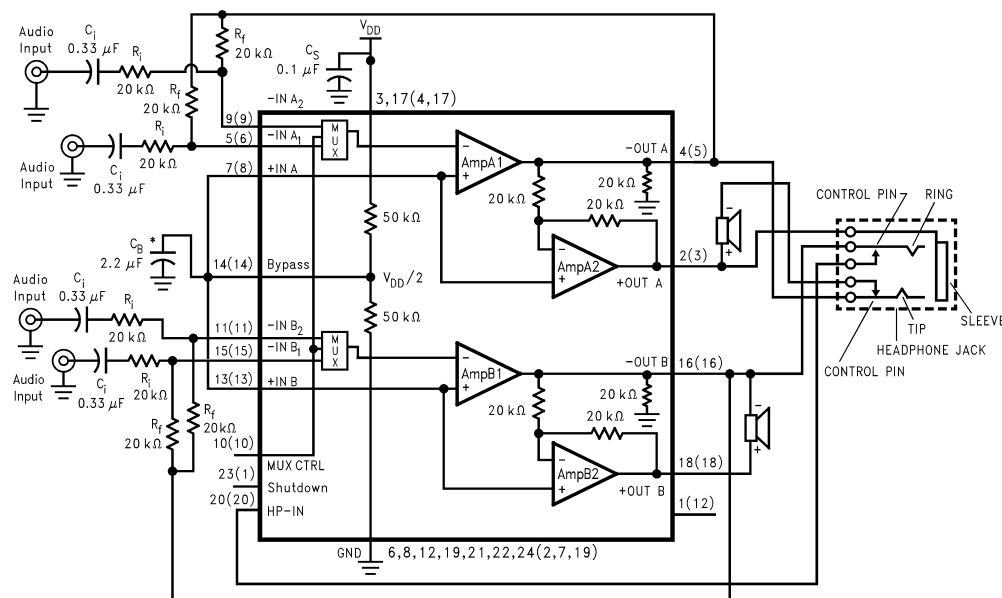

Figure 6. Typical Audio Amplifier Application Circuit
The LM4868's noise-free operation plus coupling-capacitorless headphone operation and functional compatibility with the LM4873 and the LM4863 simplifies upgrading systems using these parts. Upgrading older designs that use either the LM4863 or the LM4873 is easy. Simply remove and short the coupling capacitors located between the LM4873's or LM4863's Amp1A and Amp1B outputs and the headphone connections. Also remove the 1k Ω resistor between each headphone connection and ground. Finally, remove any resistors connected to the HP-IN pin (typically two 100k Ω resistors). Connect the HP-IN pin directly to the headphone jack control pin as shown in Figure 6.
As shown in Figure 6, the LM4868 consists of two pairs of operational amplifiers, forming a two-channel (channel A and channel B) stereo amplifier. (Though the following discusses channel A, it applies equally to channel B.) External resistors R_f and R_i set the closed-loop gain of Amp1A, whereas two internal $20\text{k}\Omega$ resistors set Amp2A's gain at -1 . The LM4868 drives a load, such as a speaker, connected between the two amplifier outputs, $-OUTA$ and $+OUTA$.
Figure 6 shows that Amp1A's output serves as Amp2A's input. This results in both amplifiers producing signals identical in magnitude, but 180° out of phase. Taking advantage of this phase difference, a load is placed between $-OUTA$ and $+OUTA$ and driven differentially ("commonly referred to as bridge mode"). This results in a differential gain of
As an example when using a speaker with a low frequency limit of 150Hz, C_i , using Equation (4) is $0.063\mu\text{F}$. The $1.0\mu\text{F}$ C_i shown in Figure 6 allows the LM4868 to drive high efficiency, full range speaker whose response extends below 30Hz.